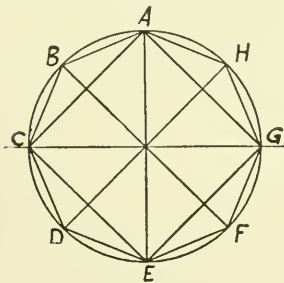

Fig. 614
21. *To inscribe a square in a given circle* (Fig. 614).—Let ABCDEFGH be the circle. Draw diameters A E and C G at right angles to each other. Draw AC, CE, EG, GA; and ACEG will be the square required.¹
(Fig. 614).—Proceed as in Prob. 21; then by bisecting the angles by diameters, or bisecting the chords, the circumference will be divided into eight equal parts. Draw AB, BC, CD, DE, EF, FG, GH, HA; and ABCDEFGH will be the octagon required.